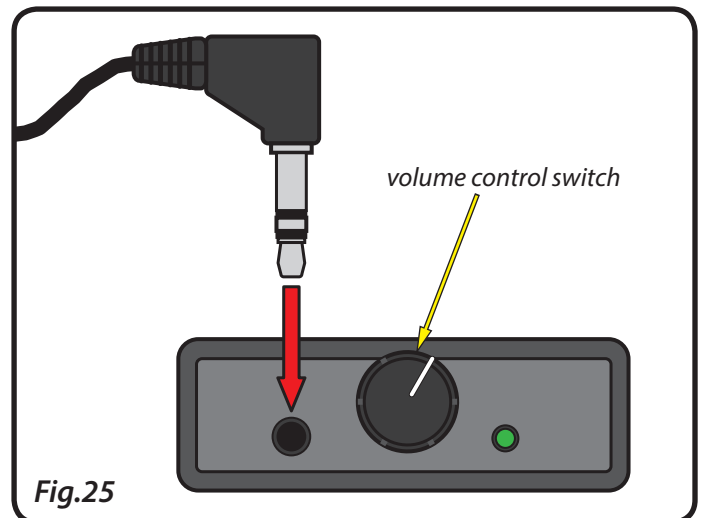

Fig.25
3. Plug the headphones in the jack connection at the top of the IL-RX20 receiver, as shown in Fig.25, and place the headphones over both ears.